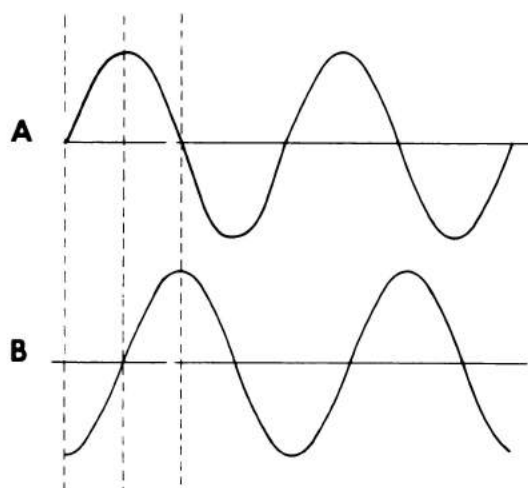

Figure 2-11
11. In Figure 2-11, the sine wave in A (leads, lags) the sine wave in B by (90, 180) degrees.
11. In Figure 2-11, the sine wave in A **leads** the sine wave in B by **90 degrees**.